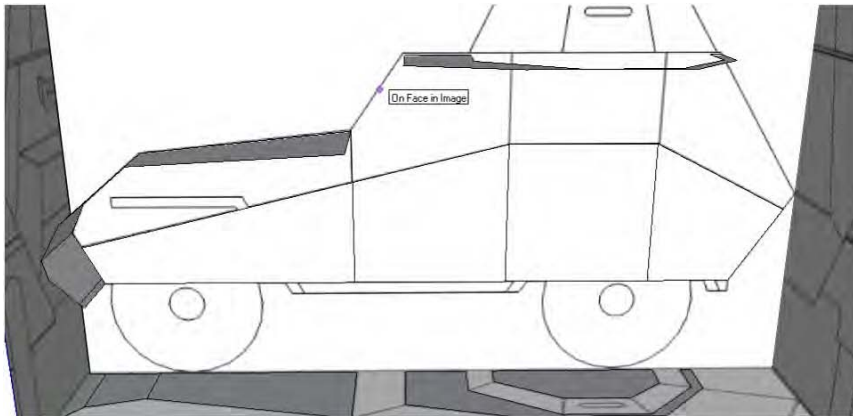

Figure 8-17. Trace of the bottom half of the side view
1. Use the Line tool, and trace the bottom half of the side view, as shown in Figure 8-17. Also draw in the horizontal lines defining the different surfaces of the model. You will be using these lines as a guide to draw in the other lines later.